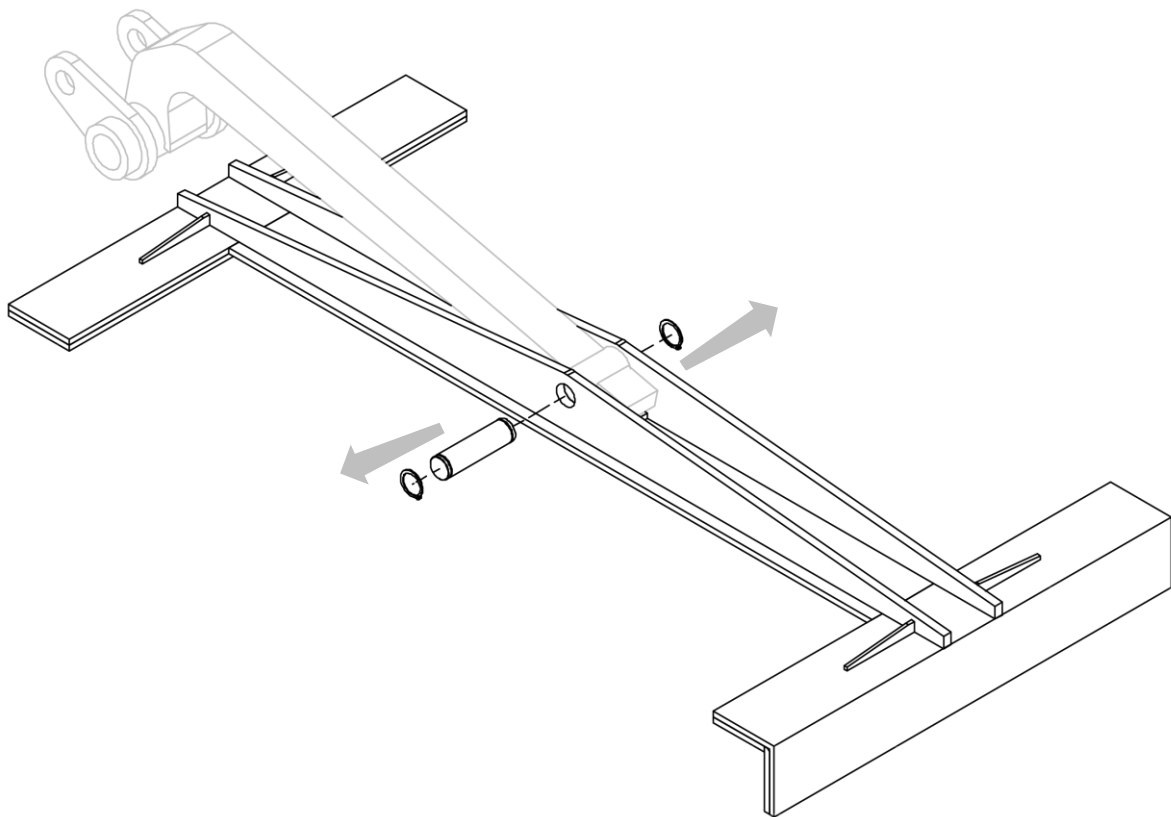

Figure 16
3. Use *Figure 16* as a guide.